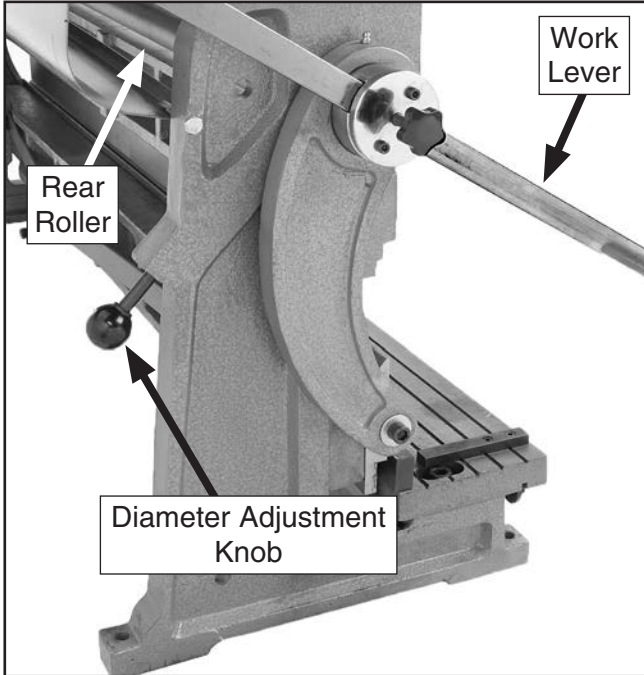

Figure 17. Adjustment knobs.
2. Unscrew the diameter adjustment knobs until the rear roller is backed-off completely (**Figure 17**).